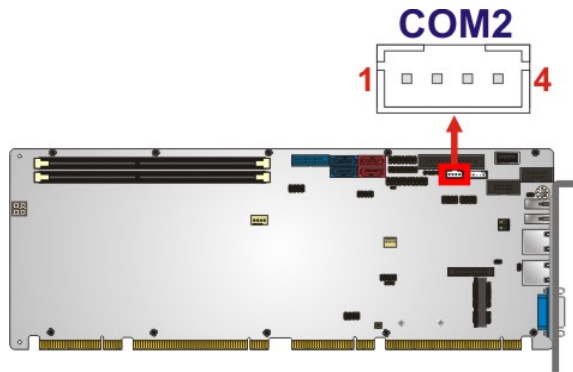

Figure 3-22: RS-422/485 Connector Location
- CN Location:** See Figure 3-22